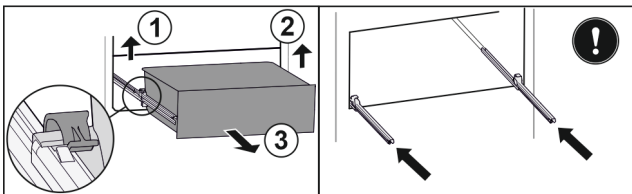

Fig. 214
- ▶ Lift left clamp and simultaneously pull drawer forwards on the left. Fig. 214 (1)
- ▶ Lift right clamp and simultaneously pull drawer forwards on the right. Fig. 214 (2)
- ▶ Remove drawer to the front. Fig. 214 (3)